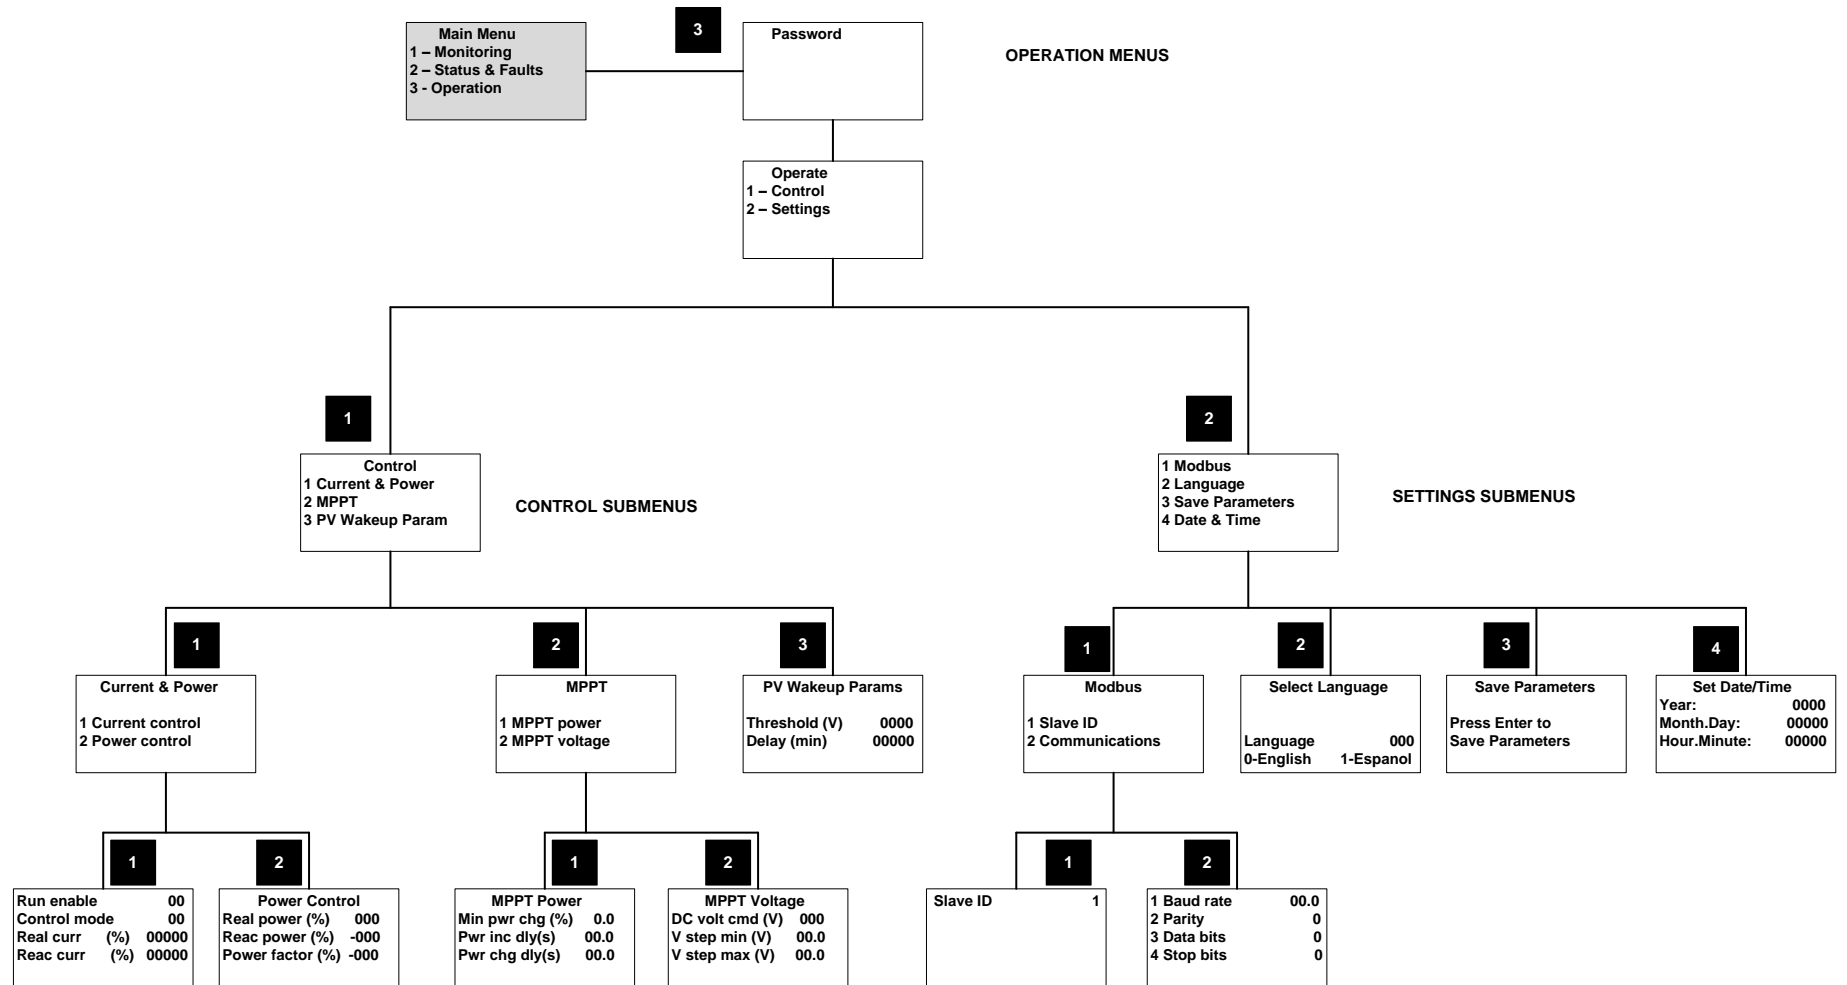

Figure 33 Operations Menu Hierarchy
- Operation menus (Refer to Figure 33)
The following descriptions explain the submenus. Refer to Figure 33 and Table 25.
Refer to Figure 33 and Table 26.